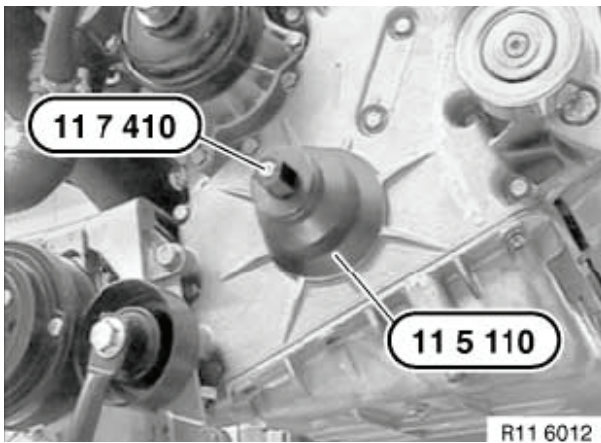
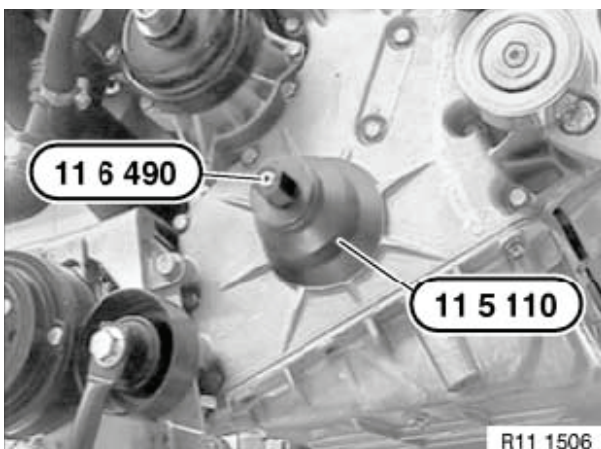

Figure 5-124
Figure 5-125
9. Install center screw OEM No. 11 7 410 (4BY) or 11 6 490 (6BY) in end of crankshaft (**Figure 5-124** or **Figure 5-125**).